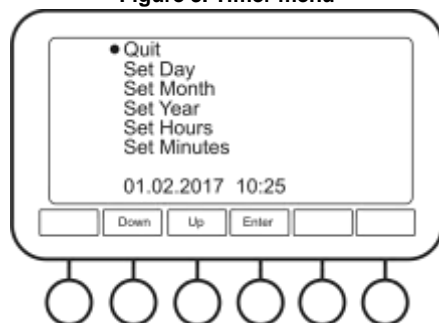

Figure 5. Date & Time menu
- 5.9.2 **Date & Time** (fig. 5). To set date and time in this submenu, press **Enter** button to select the parameter, then **Down** and **Up** buttons to change the value and **Enter** button to confirm changes.